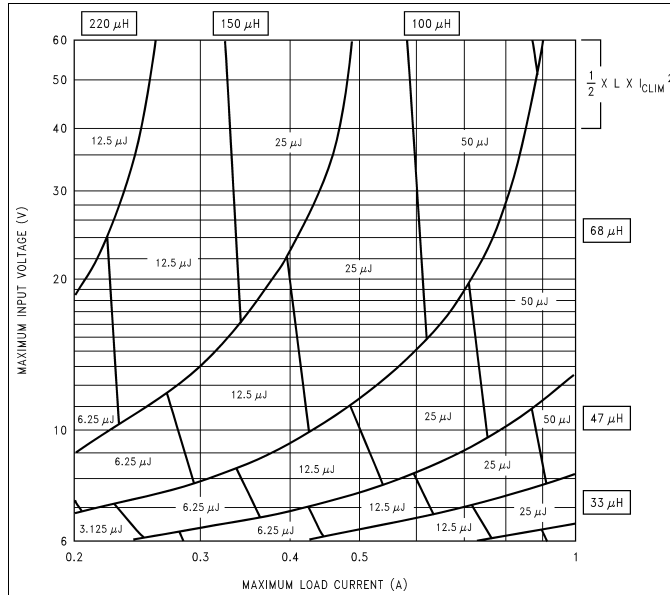
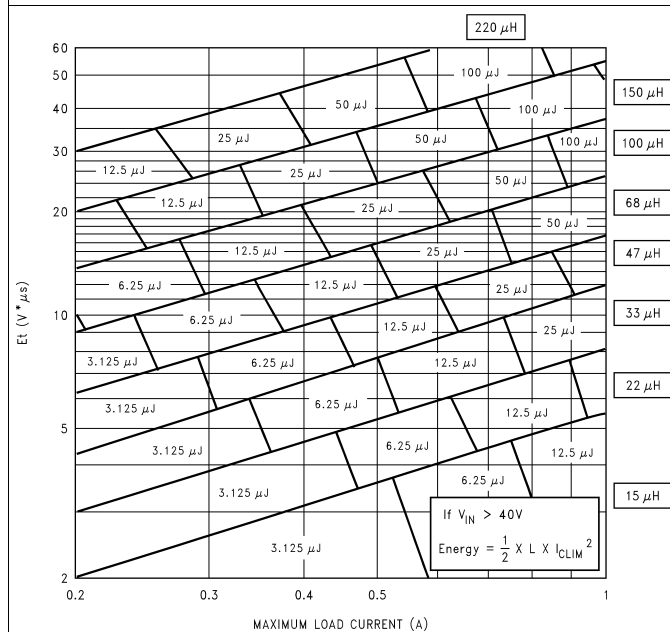

Figure 33. LM2590HV 3.3-V
Figure 35. LM2590HV Adjustable Voltage
For a quick-start, refer to the nomographs provided in Figure 33 to Figure 35. To widen the choices to a more general selection of available inductors, the nomographs provide the required inductance and also the energy in the core expressed in microjoules (μJ), as an alternative to just prescribing custom parts. The following points need to be highlighted:
5. Figure 35 shows the inductor selection curves for the Adjustable version. The y-axis is Et , in $V\mu\text{secs}$. It is the applied volts across the inductor during the ON time of the switch ($V_{IN} - V_{SAT} - V_{OUT}$) multiplied by the time for which the switch is on in μsecs. See Example 3.
1. Since input voltage is less than 40 V, a first pass inductor selection is based upon Inductance and rated max load current. We choose an inductor with the Inductance value indicated by the nomograph Figure 35 and a current rating equal to the maximum load. But we first need to calculate Et for the given application. The Duty cycle is Equation 5.
3. Therefore, looking at Figure 33, quick-select a 47- μ H, 2-A inductor (designed for 150 kHz operation) for this application.
4. Confirm that it is rated to handle 200 μ J (see Figure 35) by the procedure shown in AN-1197 Selecting Inductors for Buck Converters (SNVA038) and that the losses are acceptable. (If the DC Input voltage had been greater than 40 V we would need to consider e_{CLIM} as in Example 2). This completes the simplified inductor selection procedure. For more general applications and better optimization, refer to AN-1197 Selecting Inductors for Buck Converters (SNVA038).